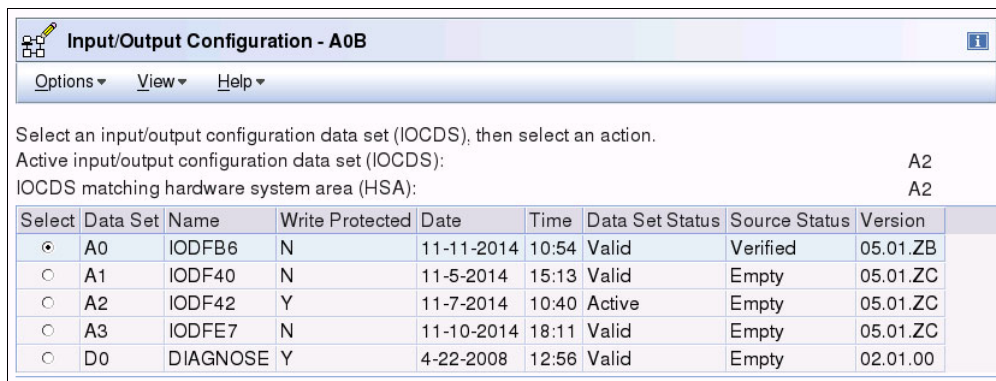

Figure 6-139 HMC - SAIOCP - IOCDS source status changed to verified
19. Observe that the Source Status now indicates **Verified** (Figure 6-139).